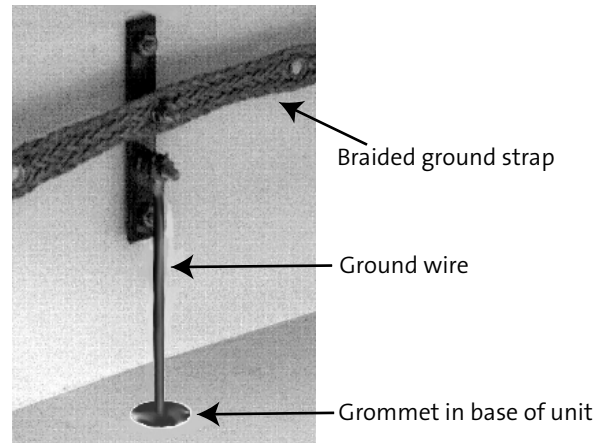

Figure 8
Step 2: Attach the ground wire to the bottom post of the grounding bar located on the rear wall of the cabinet (Figure 8).